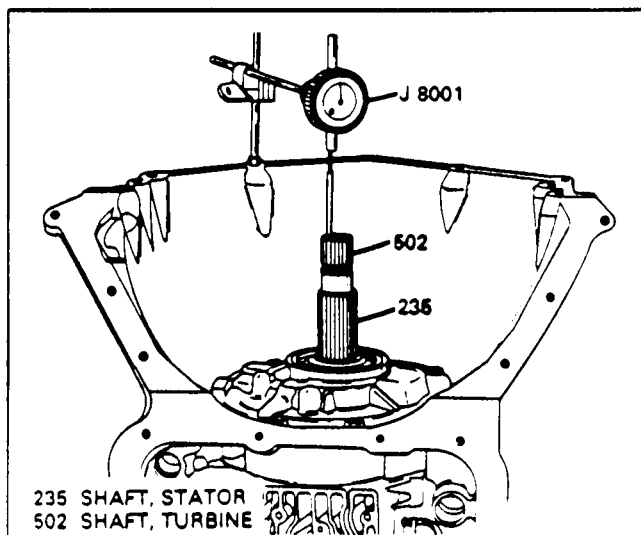

Figure 108
1. Install a dial indicator as shown in Figure 108, located on smooth section of turbine shaft.